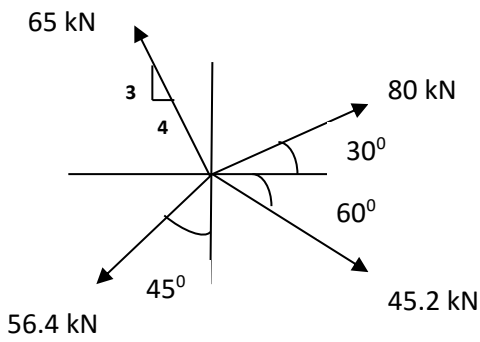

Figure 1
- 9 a) Show that the resultant of forces is zero for the system of forces shown in Figure 1. (4)